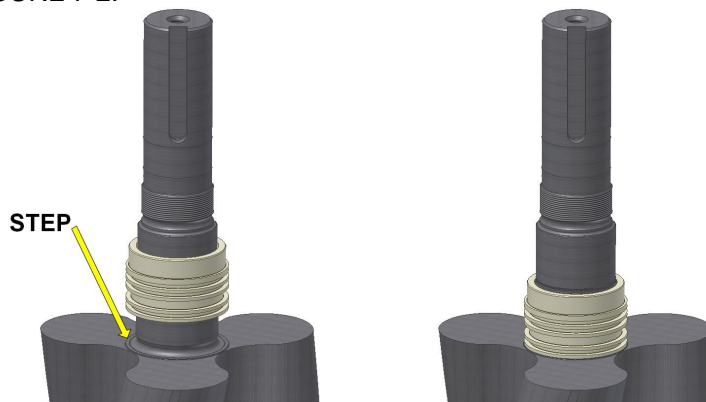

Figure 7-2 – PISTON RING CARRIER INSTALLATION
4. Using heat resistant gloves remove piston ring carrier from heat source and quickly install onto rotor shaft so large diameter is closest to rotor body. Carrier should slide into position against step next to rotor face. If carrier does not easily install, use driver tool EQ144211-3 to ensure carrier is up against step next to rotor body until cooled. Reference FIGURE 7-2.